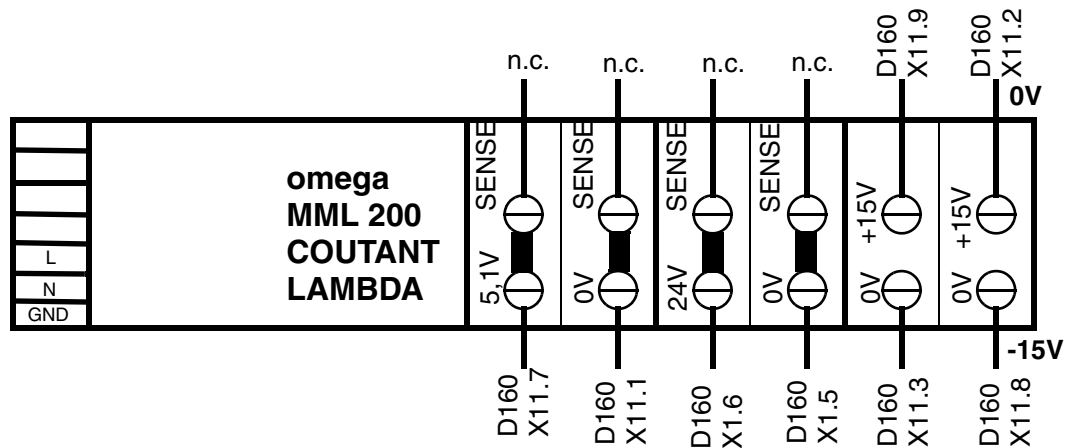
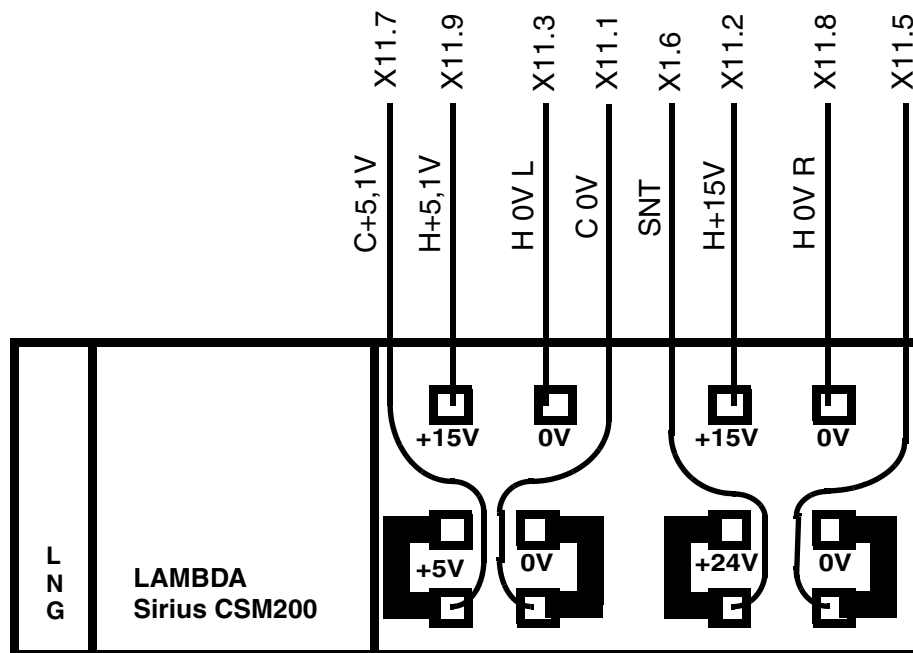

Fig. 21:
Fig. 22:
- Replace the LAMBDA power supply and connect it per (Fig. 21 / p. 75) (Fig. 22 / p. 75) or Wiring Diagram X2206.